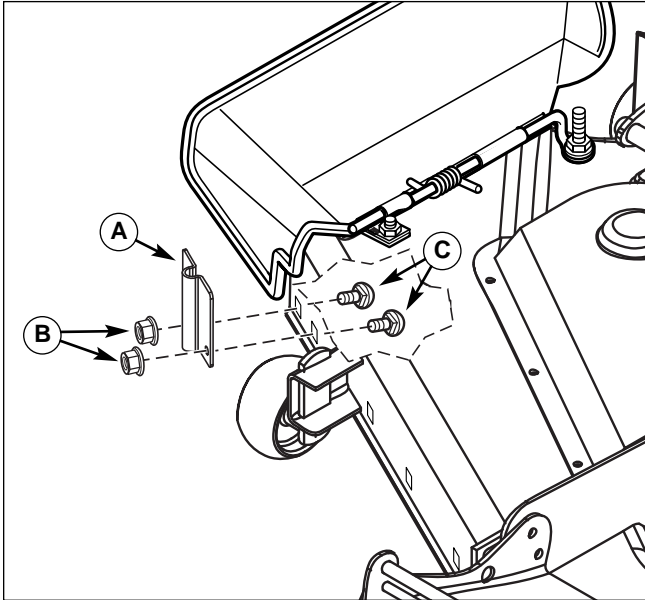

Figure 7. Install Mounting Plate
1. Install mounting plate (A, Figure 7) to mower deck as shown. Secure with 5/16-18 x 5/8 carriage bolts (C) and 5/16-18 locknuts (A).